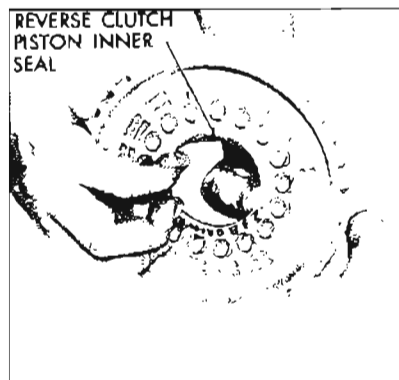

Figure 5-157
9. Examine reverse clutch piston inner seal. If nicked, torn or worn, remove seal. See Figure 5-157.